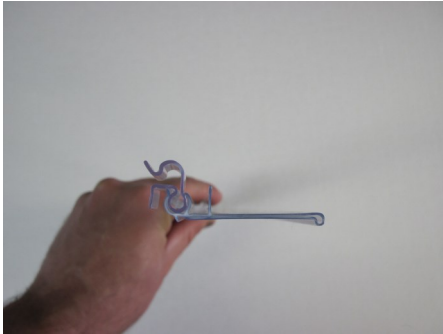

Fig. 3a
1. Insert the price tag support profiles on the shelf. **Fig. 3a-3b**;